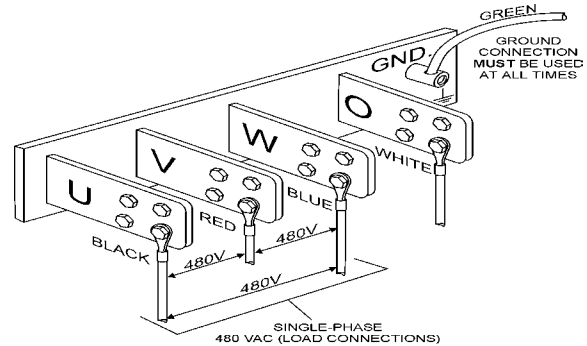

Figure 24. UVWO Terminal Lugs 1Ø480V Connections
2. Connect the load wires to the UVWO terminals as shown in Figure 24.